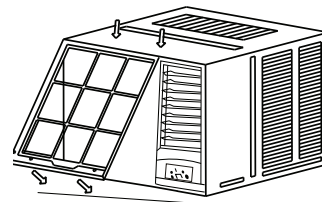

Fig. 8
- 1 Install the frame making sure not to jam the power supply cable (See Fig.8).